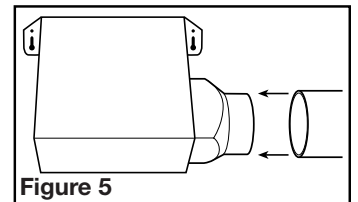

Figure 5
- Connect the ducting to the fan's duct collar (Figure 5). Secure in place using tape or screw clamp. Always duct the fan to the outside through a wall or roof cap.